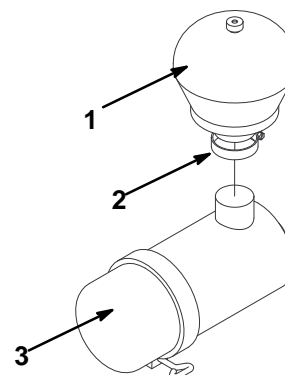

Figure 2
1. Slide the hose clamp over the collar on the bottom of the dust collector (Fig. 2).
2. Slide the collar on the dust collector over the fitting on the top of the air cleaner (Fig. 2).